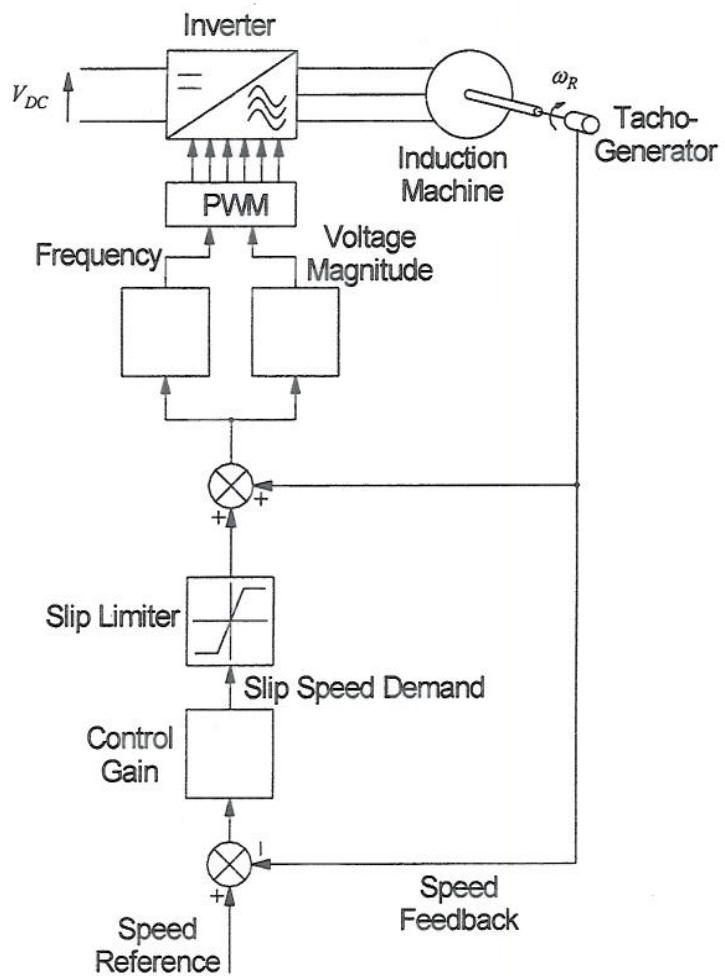

Figure Q6
- (a) Figure Q6 (overleaf) shows a slip-compensated speed control scheme for an induction machine. Describe the operation of the system including the role of the slip speed signal, the role of the slip limiter and the way in which the frequency and voltage commands for the inverter are determined. [5]
- (c) The drive system in Figure Q6 will regenerate on occasion. Describe what arrangements should be made in the DC-link circuit to facilitate this. [5]